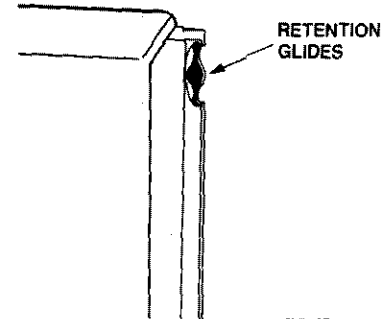

FIGURE 78
3. Take care to retain the four retention glides. See Figure 78. These will be needed to reinstall the door.